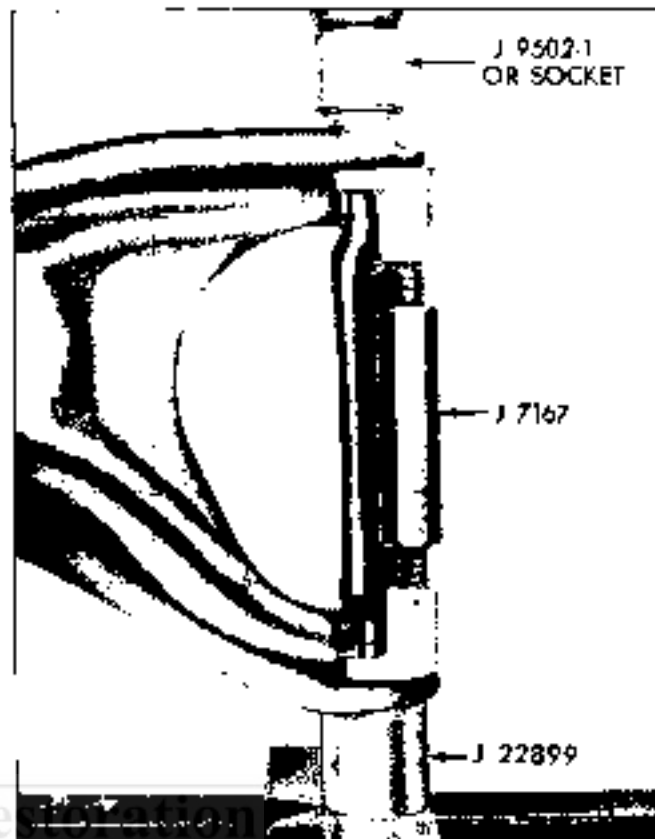

Fig. 3-15 Installing Upper Control Arm Bushing (Pontiac and Tempest)
- a. Place tool J 7167 in position as shown in Fig. 3-15 and expand until tool is snug between inner faces of arm.
d. Press bushings in control arm with arbor press, using two large sockets or J 9502-1 for installers as shown in Fig. 3-15.